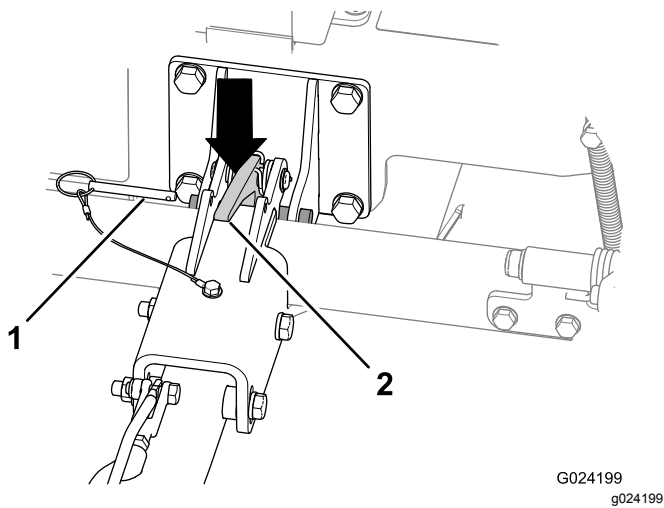

Figure 27
- A. Remove the locking pin (Figure 27).
- C. Push down on the hitch latch to unlatch the hitch (Figure 27).